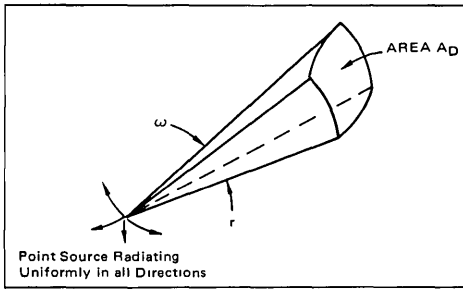

FIGURE 9 – Point Source Geometry
Figure 9 depicts a point source radiating uniformly in every direction. If equation (3) is satisfied, the detector area, A_D, can be approximated as a section of the area of a sphere of radius r whose center is the point source.